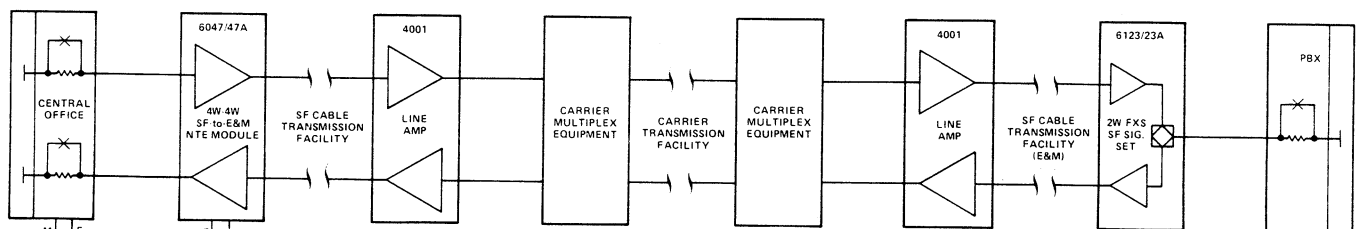

figure 5. Application where inverted-SF-receive-logic option of 6123 or 6123A is used to allow direct interface with an E&M SF facility
2.21 The 6123 and 6123A each contain a switch option that conditions (by inverting) their SF-tone-detection logic to correctly respond to conventional E&M SF facility signaling without the need for an E&M-to-FXS signaling converter between the facility and the 6123 or 6123A. This receive-path feature allows the 6123 or 6123A to be used without additional modules to provide station-end FX or OPS service when the 4wire facility uses E&M-type SF signaling instead of FX-type SF signaling. An application of this type is shown in figure 5.